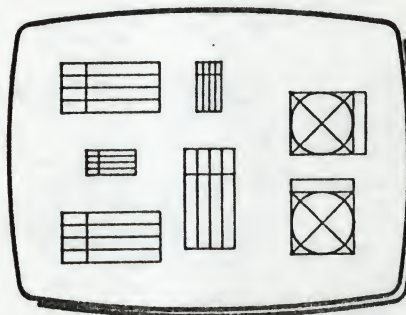

Fig 3
- 5 Copy both shapes on to the Work Page at various sizes and rotations (Fig 3).